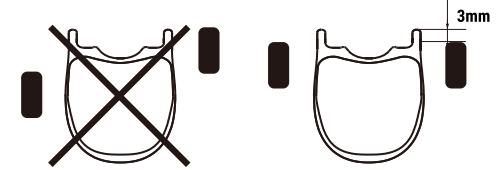

Figure 11
2. When mounting and adjusting rim brake pads, ensure to position the pads at least 3mm from the rim edge (Figure 11).